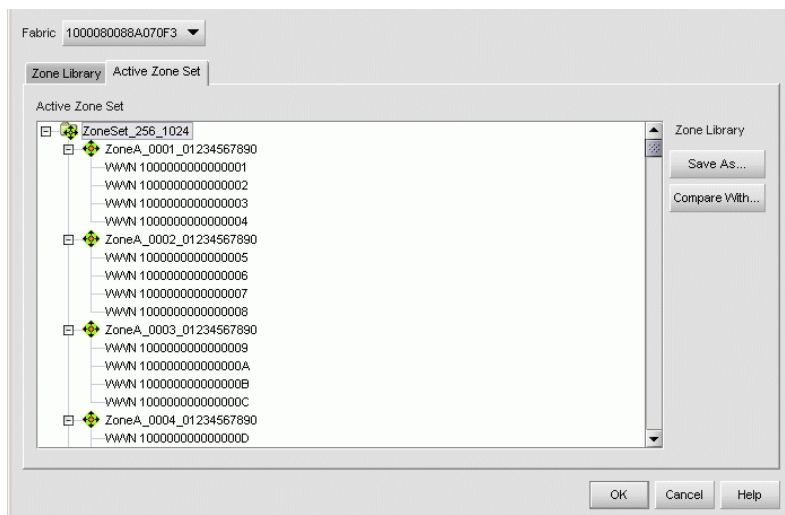

Figure 3-44 Zoning Dialog Box (Active Zone Set Tab)
- e. Click the *Active Zone Set* tab. The *Zoning* dialog box displays with the *Active Zone Set* page open (Figure 3-44).